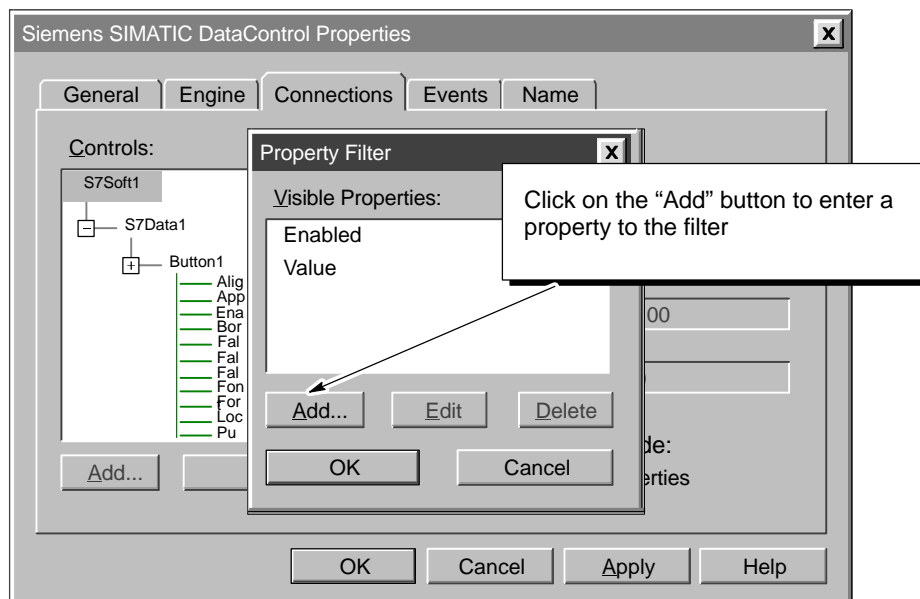

Figure 1-7 Adding Properties to the Filter
5. As shown in Figure 1-7, enter the properties to display and click on the "Add" button. Use the "Edit" button to correct entries and the "Delete" button to remove entries.